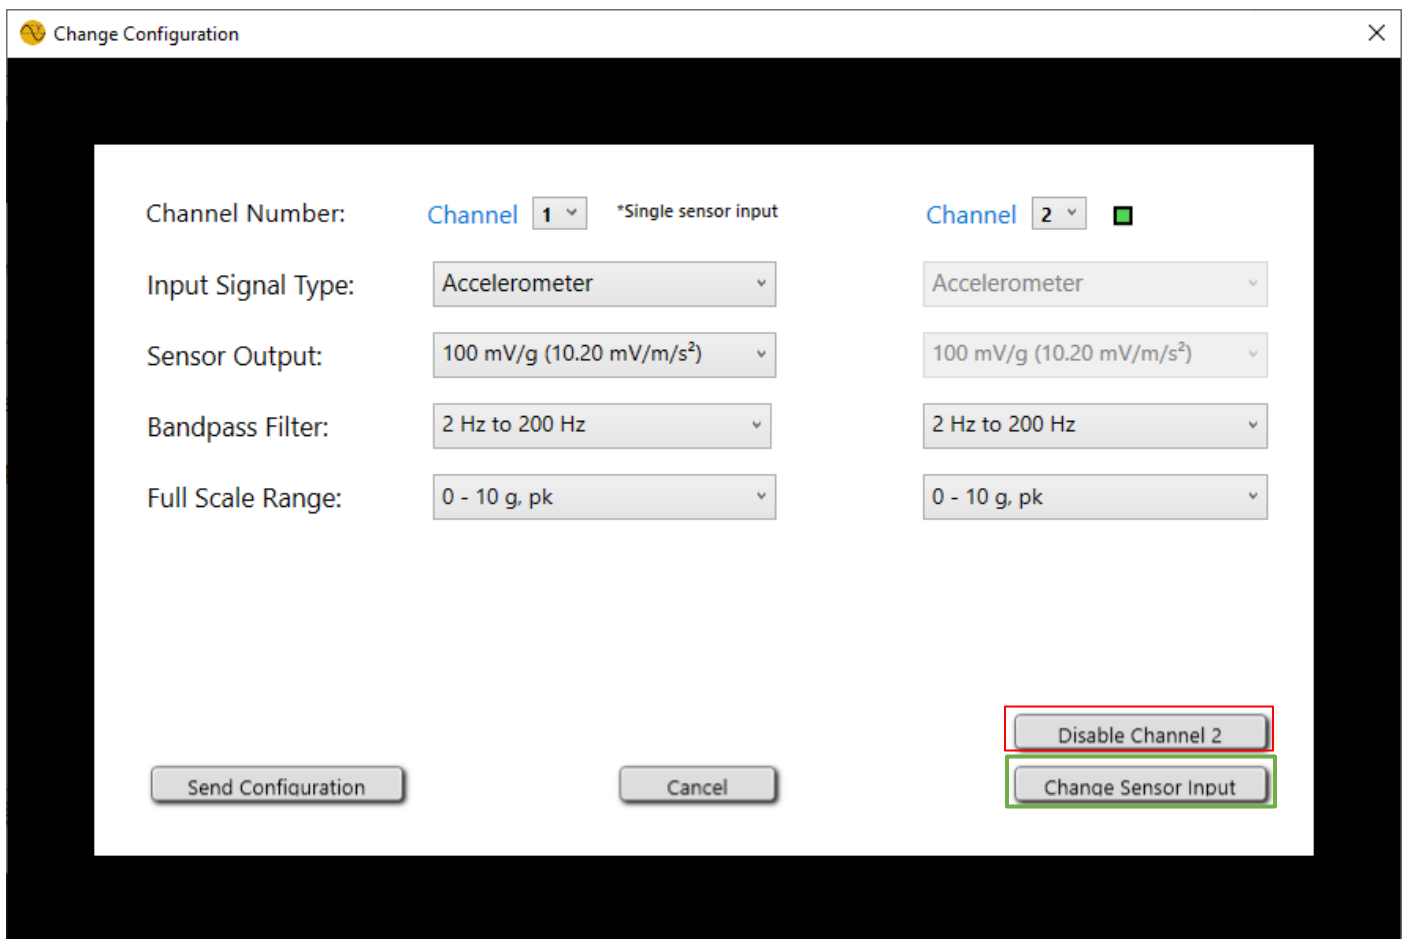

Figure 7: Change Configuration Screen for two channel mode.
If channel configuration “2” was ordered or if the second channel was enabled from the configuration software (See page 24 for more details), Change Configuration window will look like Figure 7.
1. *Single sensor input: (See Figure 7, top center)
2. *Dual sensor input: (See Figure 7, top center)